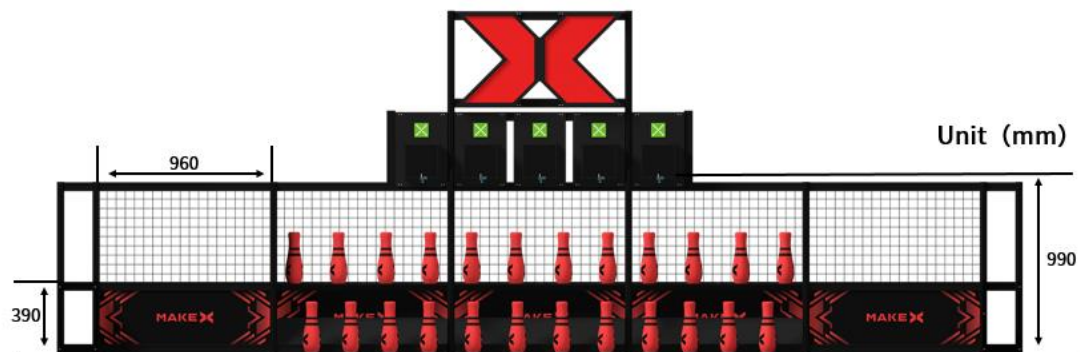

Fig 3.5 Front View of the Isolation Area
- (6) **Operating Room:** Square Chambers above the Pins represent Operating Rooms. 10 Square Chambers are arranged in the arena, 5 for each Side. The Square Chambers are made of Acrylic plates, and the internal dimensions of the Square Chambers are $180 \times 180 \times 140$ mm³. The backboard of each Square Chamber is pasted with an 80×80 mm² sticker for visual recognition. Every sticker is printed with a letter "X". Each Square Chamber has a limit switch on the bottom board, Contestants must consider the small resistance caused by the limit switch. The upper side of the bottom board of each Square Chamber is 990 mm above the Ground (see Figure 3.5). Note: There will be a ± 0.5 mm edge length tolerance for these Square Chambers, Contestants must also consider possible errors caused by installation.